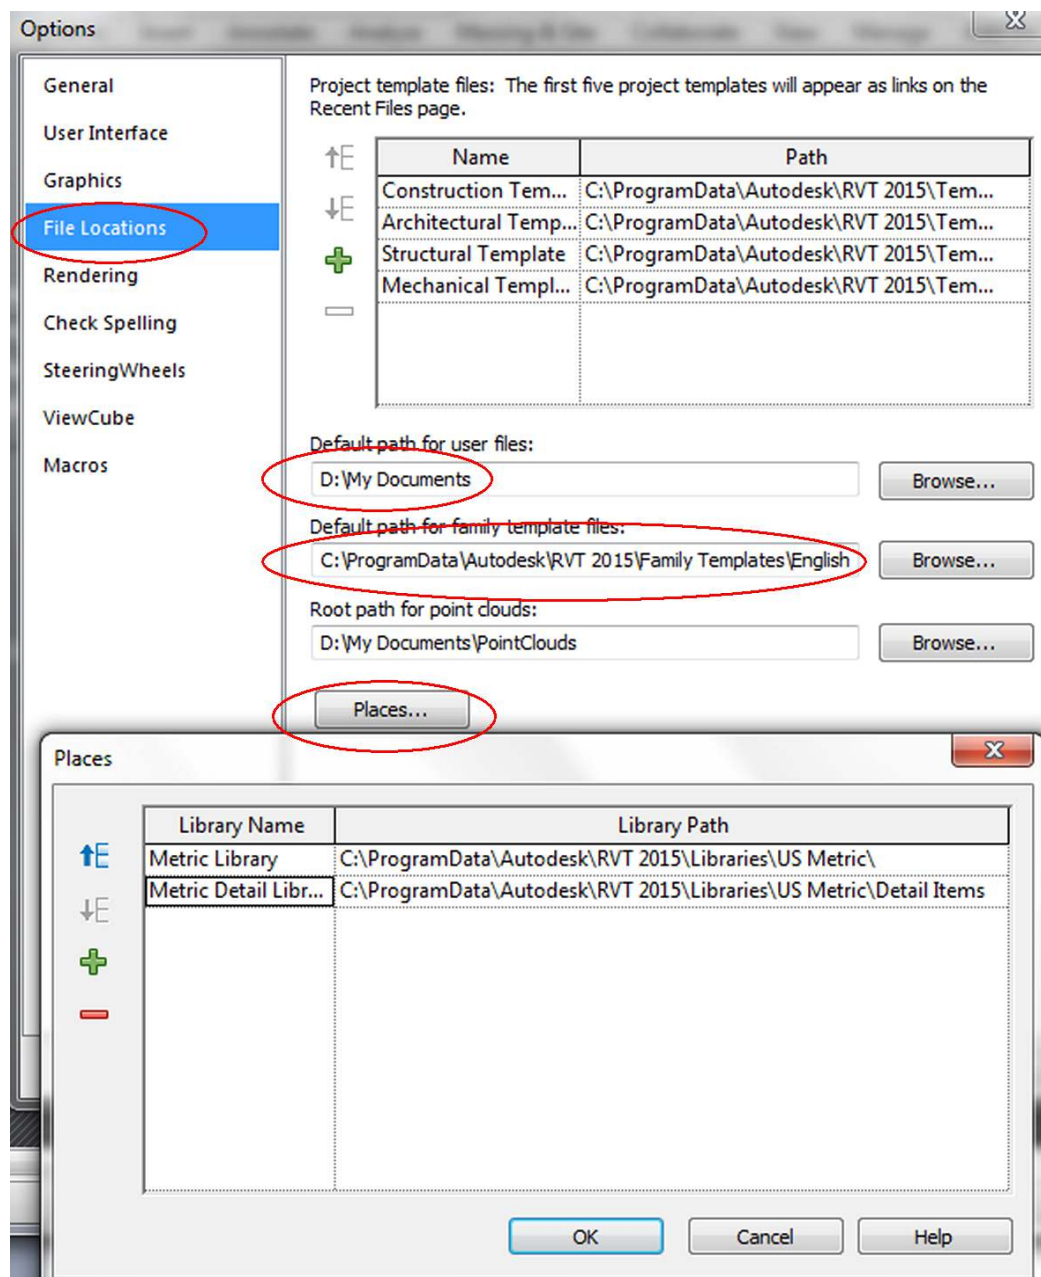

Fig. 1.2 – Setting File Locations
6. Check that File Locations for User Files and Family Template Files are set properly (Fig. 1.2).